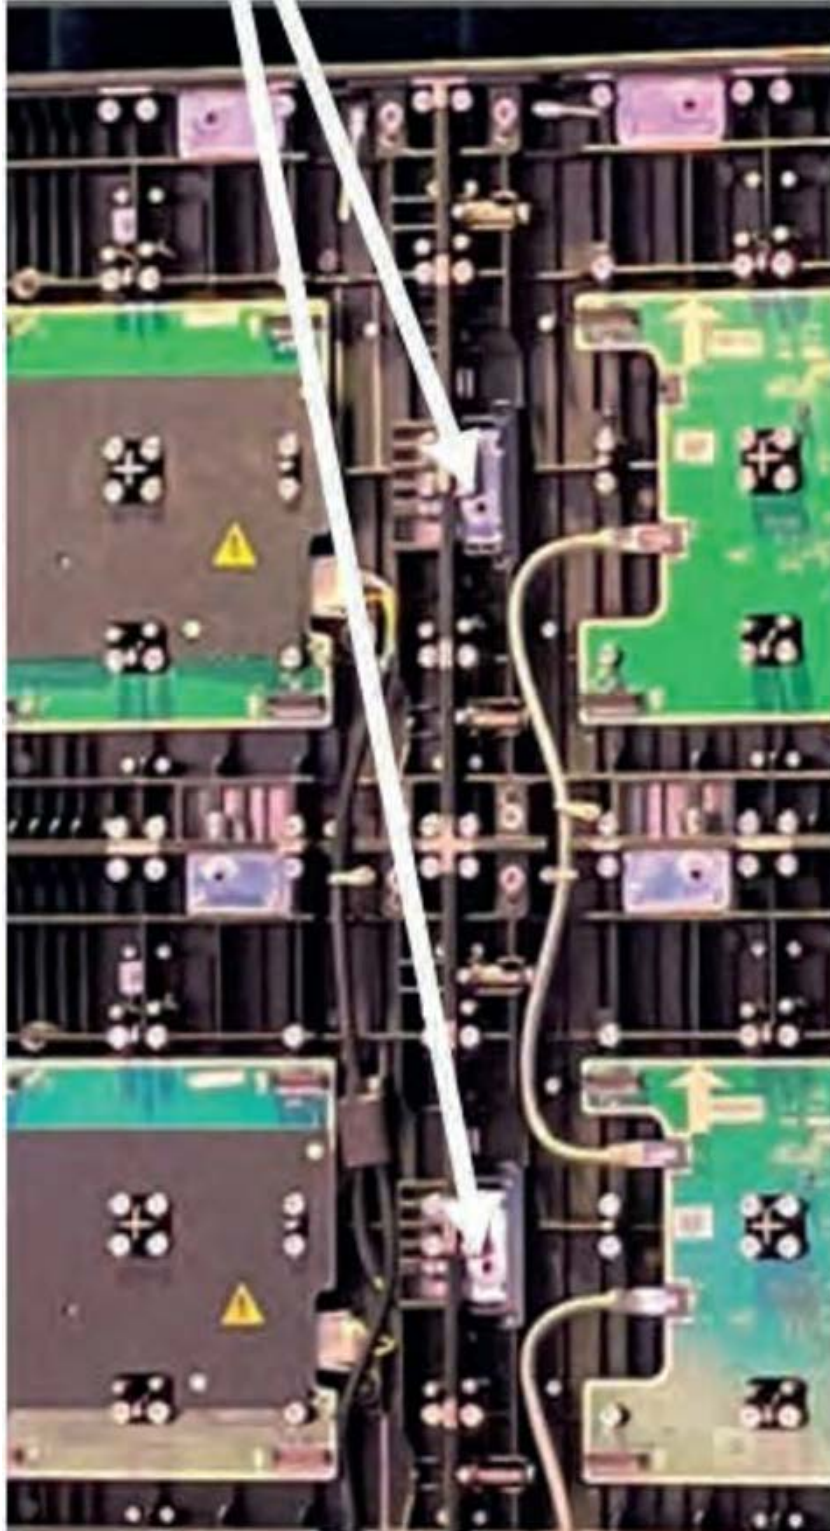

Figure 23
- Secure the columns together by rotating the Side Hook Locks in each panel within each column with a hex wrench until the two adjacent columns are fully locked together (See Figure 23).